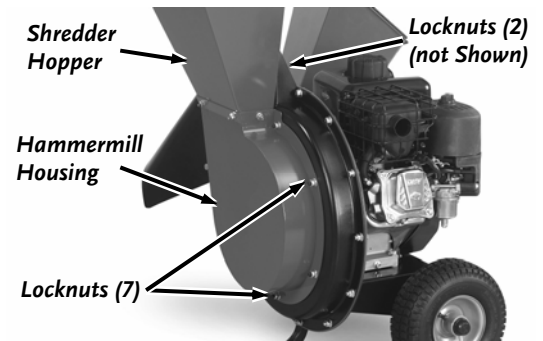

Figure 20
1. Use a 1/2" Wrench to remove the nine Locknuts that secure the Hammermill Housing and Shredder Hopper Assembly (**Figure 20**). Lift the Assembly off the machine.